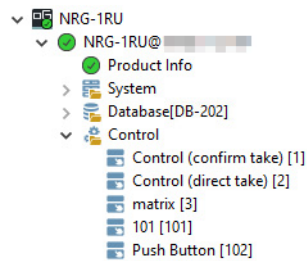

Figure 49 Example of Soft Panel Nodes
This name is used to identify the panel in the Control > Panels tree (see **Figure 49**).
3. If required, use the  buttons to determine the position of the panel in the Panels list. This also determines the priority of the panels in the Control > Panels tree (see **Figure 49**).
Once created, the soft panel is listed as a sub-node in the NRG > Control tree. The hierarchy of the nodes in the tree is determined by their Panel ID which is assigned when the soft panel is created in the database. Double-click a sub-node to display the corresponding soft panel in the DashBoard window. In **Figure 49** there are five soft panels in the tree view including the default panels (the top two sub-nodes).